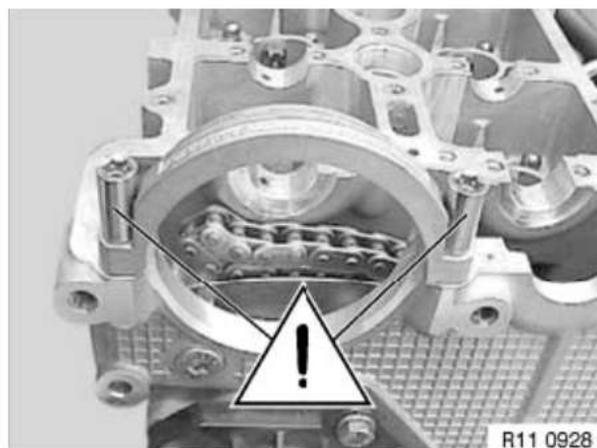

Figure 5-100
22. Do not remove loop casting bolts. **NOTICE: NEVER remove bolts retaining loop casting (Figure 5-100).**